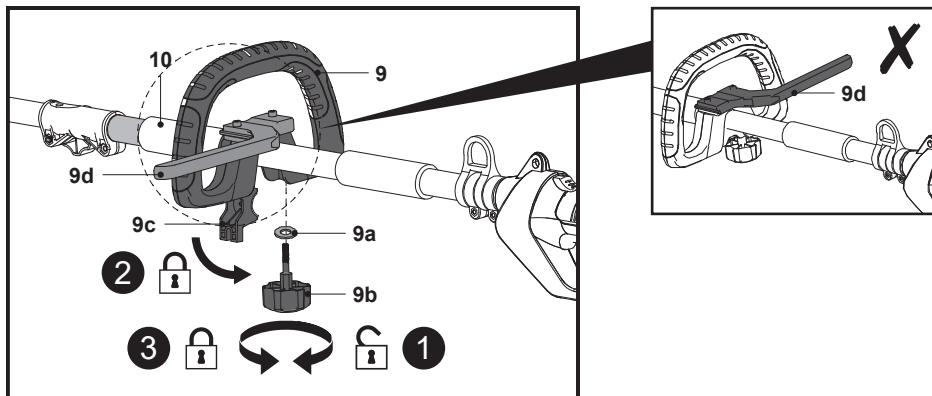

Fig. 6
1. Loosen the lock knob (9b) anticlockwise and remove it together with the washer (9a) (Fig. 6, step 1).
2. Unfold the clamp lever (9c), then place the auxiliary handle (9) on the upper pole (10) by folding up the clamp lever (9) (Fig. 6, step 2).
4. Screw the lock knob (9b) from below onto the auxiliary handle (9) and tighten it slightly by hand (Fig. 6, step 3).